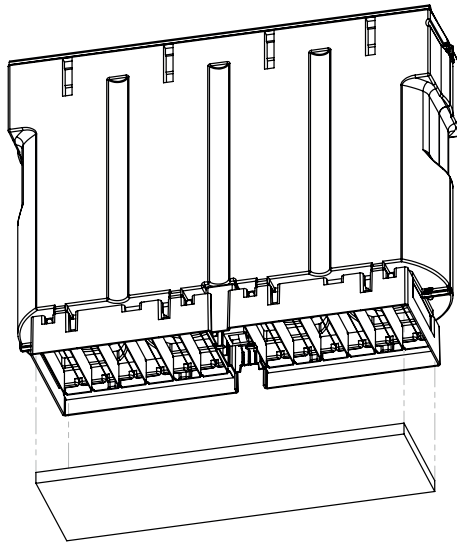

Figure 18. Prefilter replacement
4. Extract the prefilter as shown in Figure 18;
4. Extract the prefilter, as shown in Figure 18;